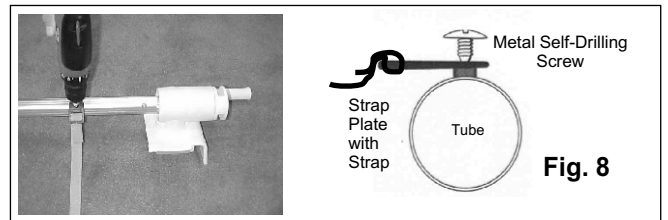

Fig. 8
- Attach strap plates to tube (see Fig. 8). **DO NOT pre-drill holes** or over-tighten screws.